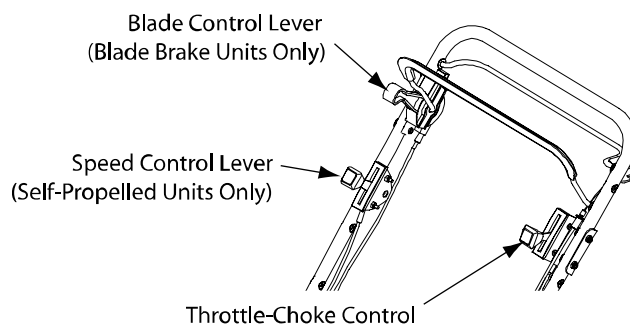

Figure 2
The throttle-choke control is located on the left side of the handles as shown in Figure 2. The lever is used to control engine speed. Moving the lever to the full forward **H (Choke)** position will place the lever in the choke position. The choke aids in starting a cold engine. Moving the throttle control forward will increase engine speed and moving it to the rear will decrease engine speed.
The blade control lever is located on the right side of the handle next to the Blade Control Bail as shown in Figure 2. Moving the blade control lever into the full forward position while depressing the blade control bail engages the blade. Releasing the blade control bail automatically disengages the blades.
The ground speed control is located on the right side of the handles below the blade engagement lever as shown in Figure 2. The ground speed control has three settings which control the ground speed of the mower.
The lawn mower has three ground speeds. **1** is slow, **2** is medium, and **3** is fast (See Figure 2).
3. Move the blade control lever to the full forward **Latch** position. Blades should engage (Fig. 2).